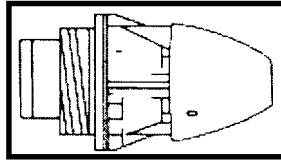

Figure 7-18. M745 PD fuze.
d. **M745 PD Fuze** (Figure 7-18).
- (1) Functions: Impact.
- (2) Settings: None.
(3) Remarks: The fuze functions on impact with superquick action only. The markings (PRX, NSB, IIMP, and DLY) are dummy settings. Rotation of the fuze head does not alter the function mode.